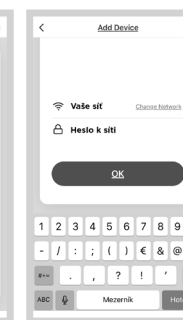

Fig. 9
5. Select your Wi-Fi network to which the device needs to connect to and enter your password (Fig. 9).